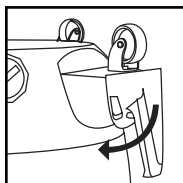

FIGURE 9
9. Apply pressure to front of hose holder to snap into place. **FIGURE 9.**